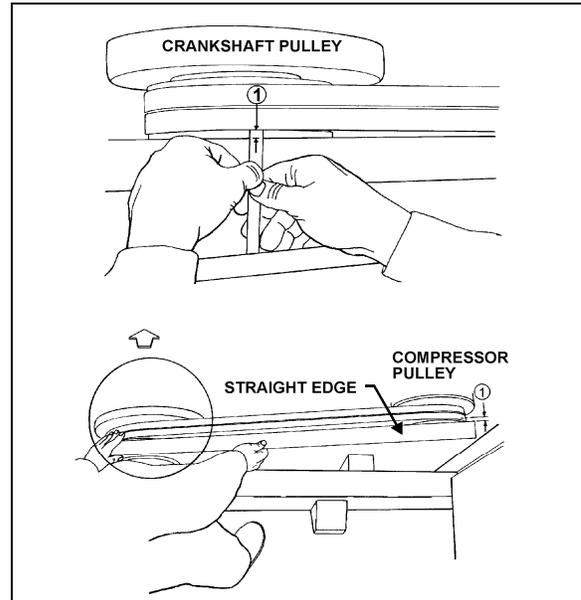

FIGURE 24: COMPRESSOR ALIGNMENT 22040
2. Check the distance between each extremity of straight edge (1. Fig. 24) and the first drive belt. If they are different, loosen the compressor support bolts and with a hammer, knock support to slide it in order to obtain the same distance; then tighten bolts.
2. Check the distance between each extremity of straight edge (1, Fig. 24) and drive belt. If they are different, loosen the pillow block compressor bolts and with a hammer, knock compressor pillow block to slide it, in order to obtain the same distance; then tighten bolts.